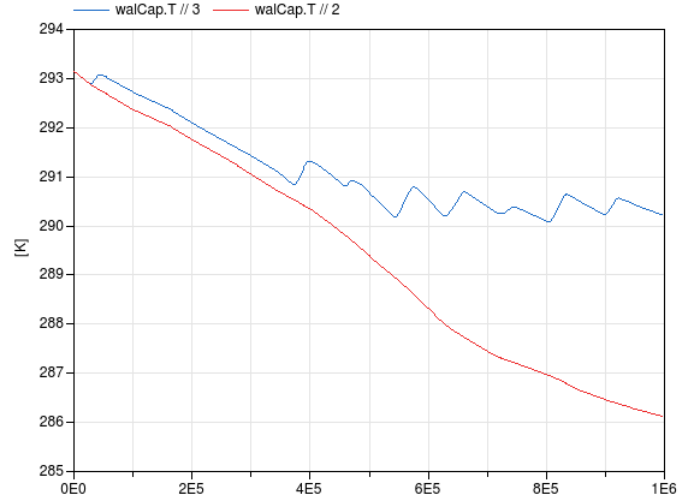

Figure 3: Wall temperature in K as function of time in seconds, with and without window.
**Reference result** The result with and without the window model is plotted in Figure 3.